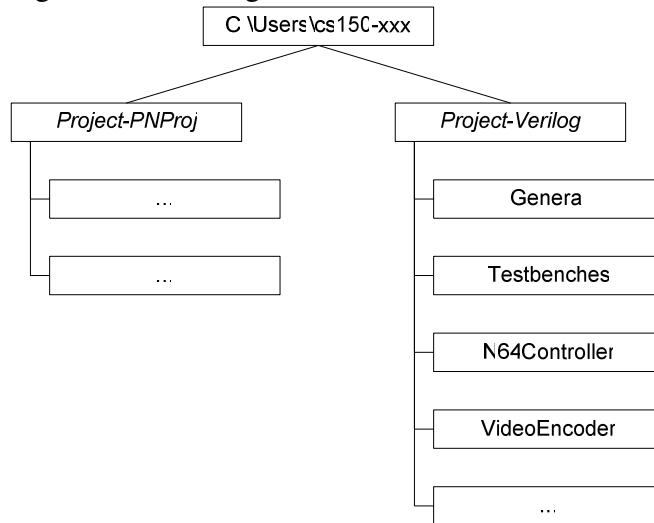

Figure3: Example Directory Structure
- a. You should keep your Verilog source files in a subdirectory of **C:\users\cs150-xxx separate from your project**. Please use good sense and make sure to keep your files organized, **CVS is a good idea**. Using an old file or losing a file can waste **days** of your time. For an example of good organization see figure 3 below.